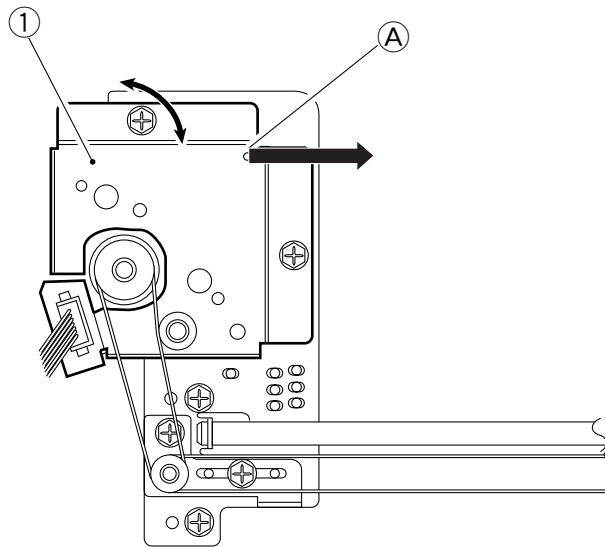

Figure 11-220
Move the lens motor support ① and fit it in place so that the reading of the spring gauge is $1000 \pm 50\text{g}$ when motor support ① is pulled with a spring gauge in the direction of the arrow at the point A indicated in Figure 11-220.